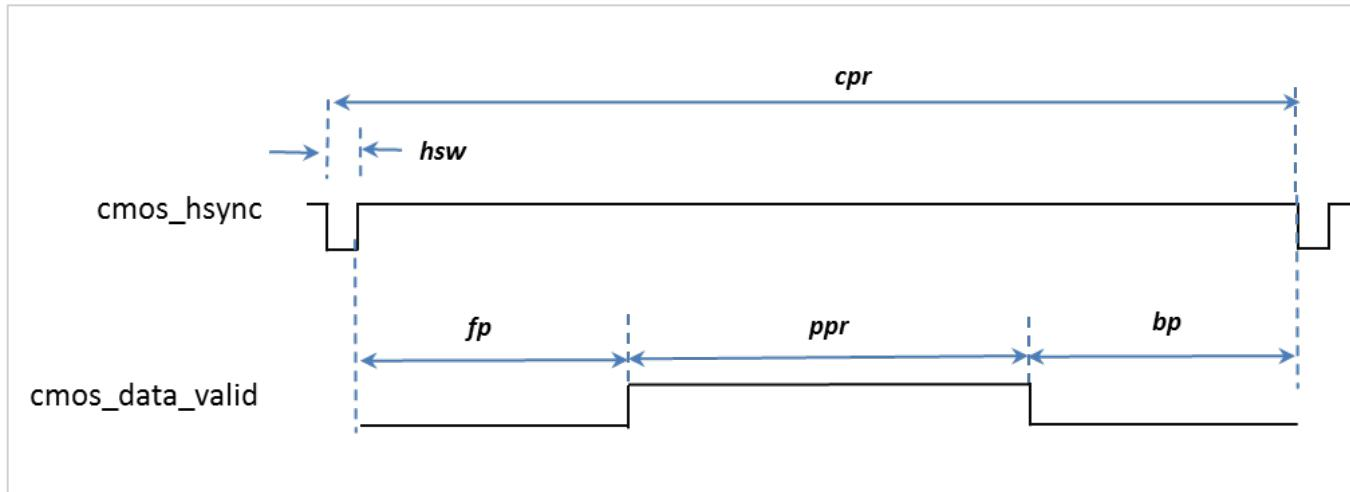

FIGURE 56: LINE TIMING OF THE CMOS OUTPUT CHANNEL
3. Each row period consists of four distinct sections, as depicted in Figure 56: